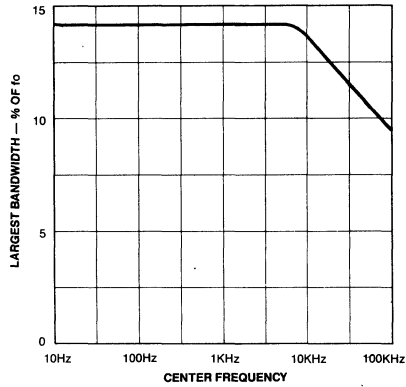

FIG 10. DETECTION BANDWIDTH
The selection of C2 is determined by the detection bandwidth requirements, as shown in Fig 10. For additional information see section on "Definition of Device Parameters."
2. Low-pass capacitor, C2, can be determined from the bandwidth versus input signal amplitude graph of Fig 10. One approach is to select an area of operation from the graph, and then adjust the input level and value of C2 accordingly. Or if the input amplitude variation is known, the required  $f_0 C_2$  product can be found to give the desired bandwidth. Constant bandwidth operation requires  $V_i > 200mV_{rms}$ . Then, as noted on the graph, bandwidth will be controlled solely by the  $f_0 C_2$  product.